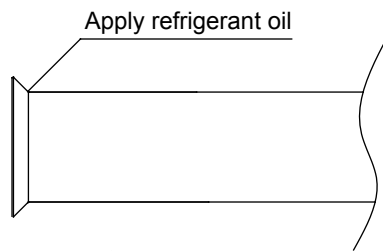

Fig.9
- For connection at a flare, apply ester or ether oil to the flare (both inner surface and outer surface). Apply such oil for 3 to 4 times and insert the screw in the first use (Refer to Fig.9).
- To weld the refrigerant pipe, please make nitrogen replacement (\*1), or send nitrogen (\*2) into the refrigerant pipe while welding the pipe (refer to Fig.9). Finally use the flare or flange to connect the indoor unit and valve box.